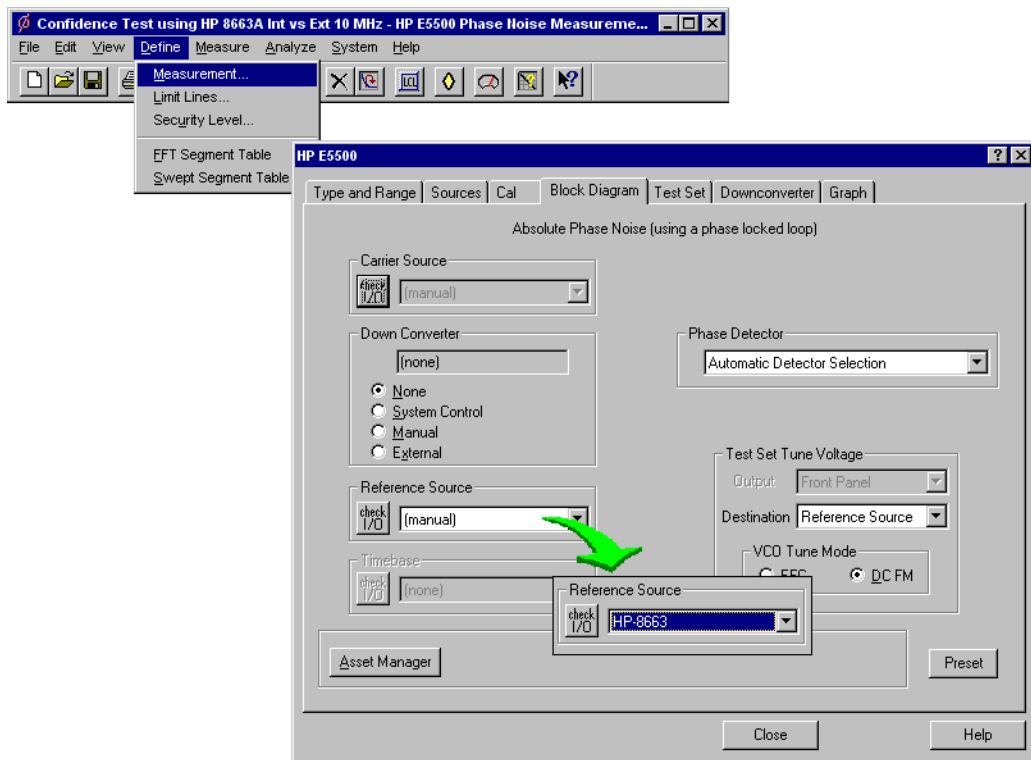

Figure 7-25 Selecting a Reference Source
- 1 Using Figure 7-25 as a guide, navigate to the **Block Diagram** tab.